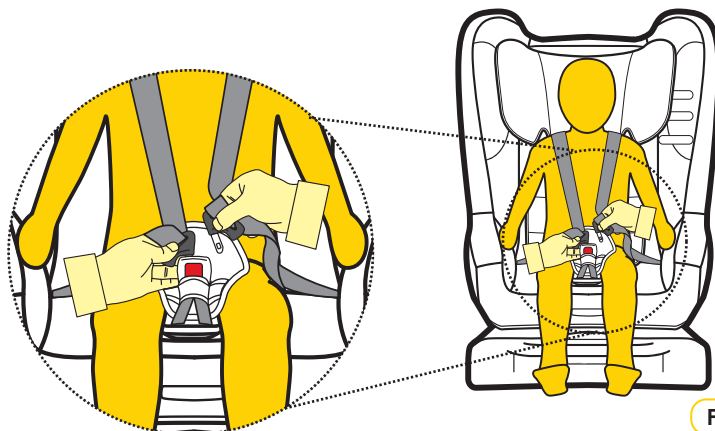

Figure 2
**Step 3:** Place child in car seat with legs either side of the buckle, place harness over the shoulders and hips. (refer Figure 2).